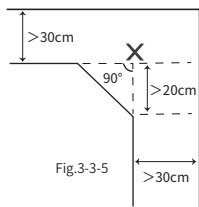

Fig.3-3-5
- No acute or right angle for the boundary wire (Fig.3-3-5).